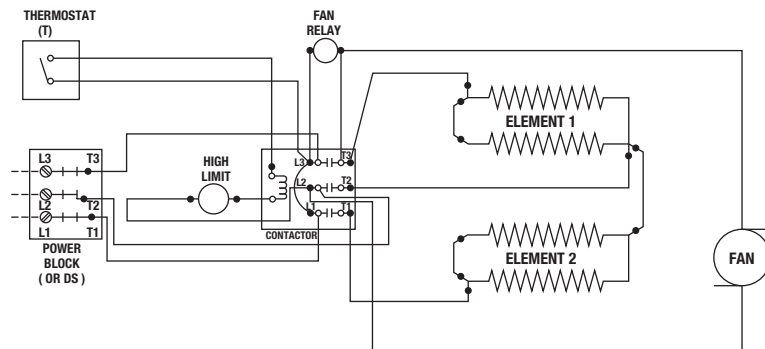

Figure 3
switch to terminals L1 and L2 (L3 for three phase) on contactor of the heater. (See Wiring Diagram, Figure 3).
See Wiring Diagram, Figure 3.
2. Connect heater white wires to "L2" and "cycle" terminals on the thermostat as shown in the wiring diagram, Figure 3.